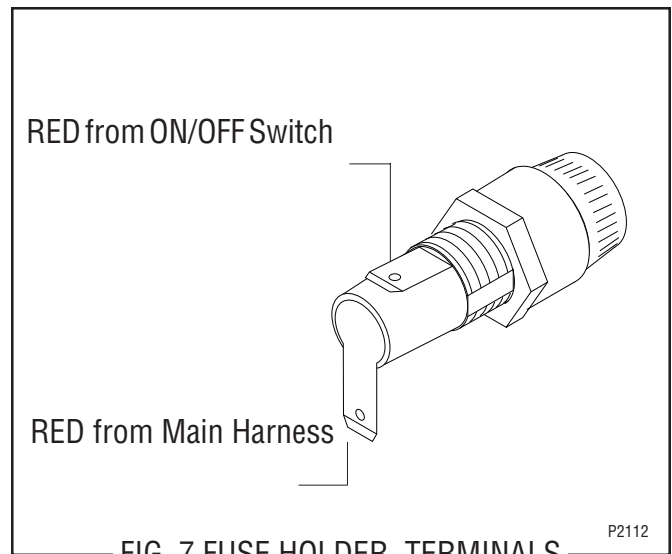

FIG. 7 FUSE HOLDER TERMINALS
5. Refer to Fig. 7 and reconnect the wires.